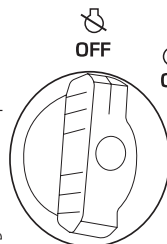

Fig. 3
3. Set the multifunctional engine switch to the "OFF" position (Fig.3).